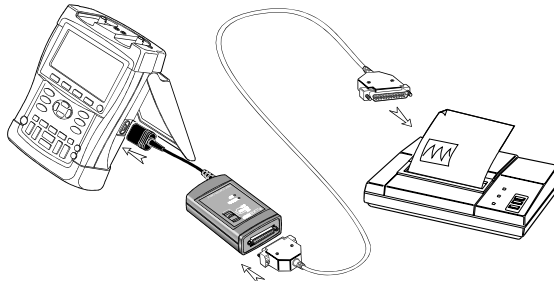

Figure 50. Connecting a Parallel Printer
- The Print Adapter Cable (PAC91, optional) to connect a parallel printer to the OPTICAL PORT of the test tool. (See Figure 50.)
To connect the SII (Seiko Instruments Inc.) DPU-414 thermal printer you must use the printer adapter cable PAC91. (See Figure 50)